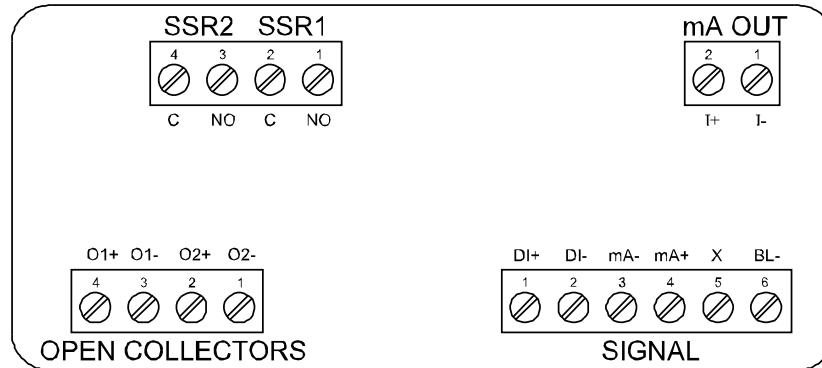

Figure 4. Connector Labeling for Fully Loaded Meter
Signal connections are made to a six-terminal connector labeled SIGNAL on Figure 4. The following figures show a 4-20 mA current loop connected to the meter. The first figure shows the connection without the backlight and the second shows the connection with the backlight (the backlight may also be disabled/enabled in the `SYSTEM` menu). The meter is powered by the 4-20 mA current loop. There are no switches or jumpers to set up for the input. Setup and programming is performed through the front panel buttons or PC-based software.
Relay connections are made to a four-terminal connector labeled SSR1 and SSR2 in Figure 4. Each relay's C terminal is common only to the normally open (NO) contact of the corresponding relay.